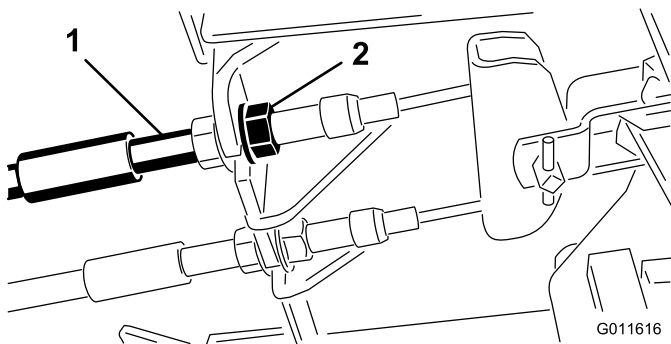

Figure 60
1. To reduce free travel of the brake pedals, tighten the brakes by loosening the front nut on the threaded end of the brake cable (Figure 60).